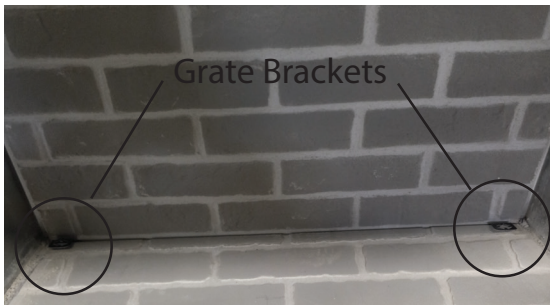

Figure 7.2 Grate Brackets In Place
- Remove smoke shield. (Remove the (5) screws holding the shield.)
- Place grate brackets in outer two notches of refractory. See Figure 7.2.